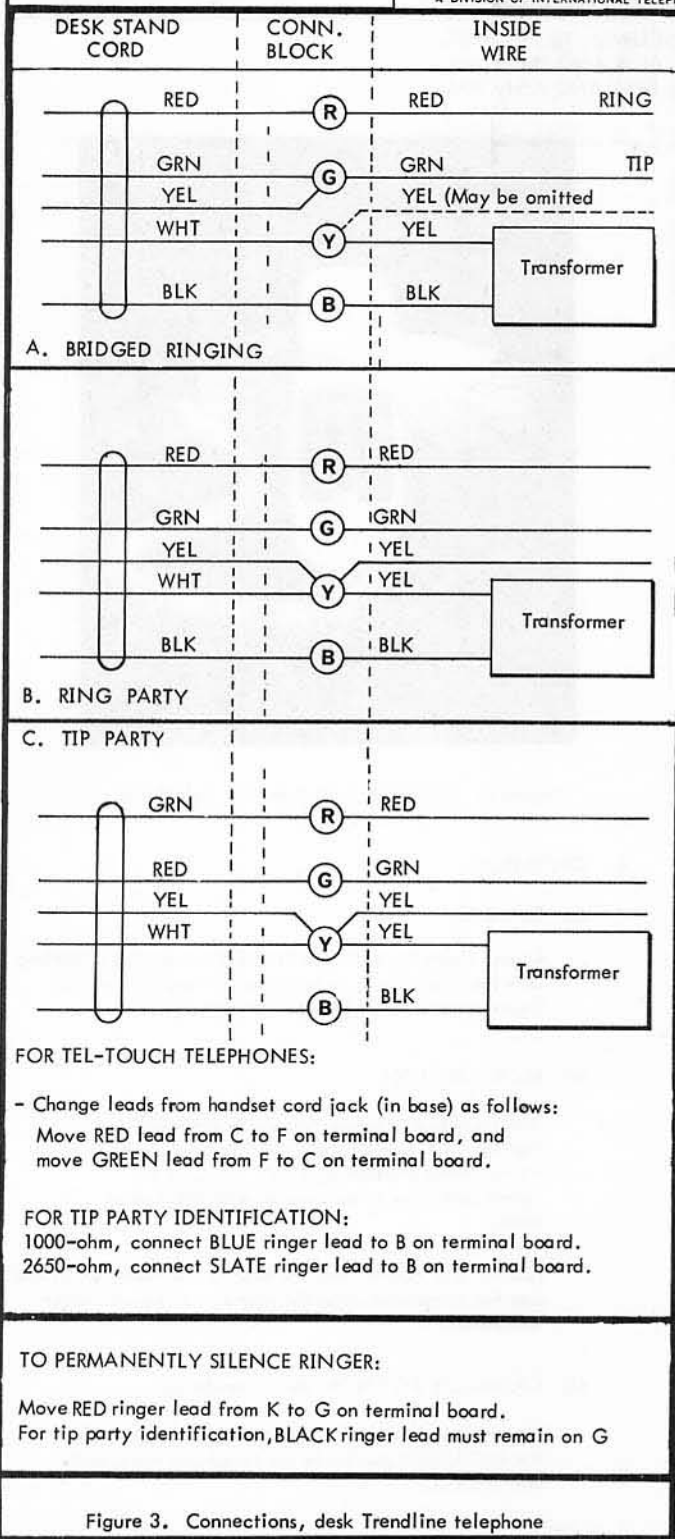

Figure 3. Connections, desk Trendline telephone
- (a) Connect the Desk Stand Cord as shown in figure 3.
- (b) Refer to figure six (6) and plug the Handset Cord into the Base and into the Handset.